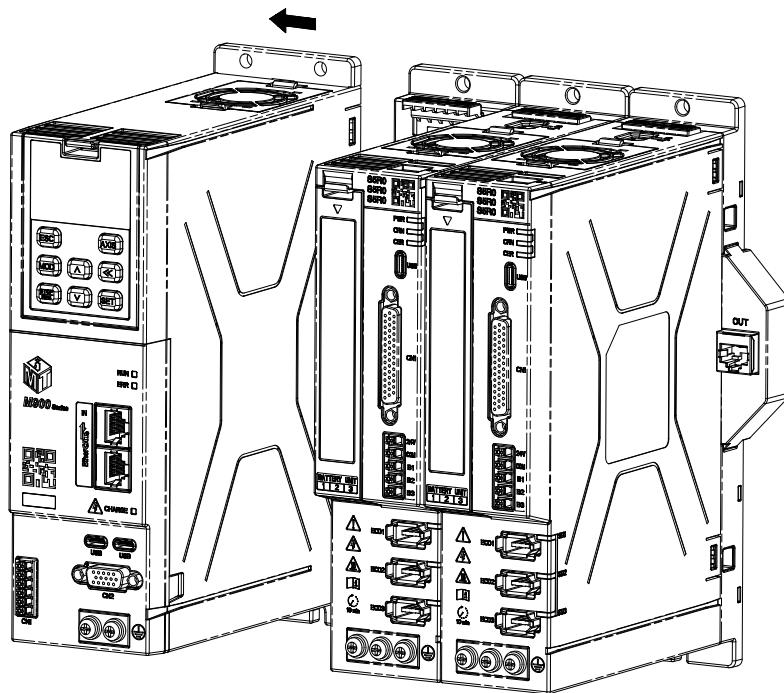

Figure 4-10 Disassemble the power module
2. As shown in Figure 4-10, hold the power module with both hands and pull it out to the left along with the first connector to disassemble the power module.